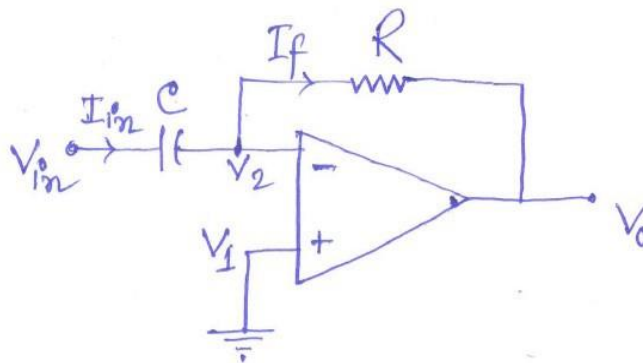

Fig.3.20 Simple differentiator circuit using op-amp
3.6.4.12 A circuit in which the output voltage waveform is the differentiation of input voltage waveform is called differentiator as shown in Fig.3.20
From the circuit of fig.3.20 we can write $I_{in} = I_f$